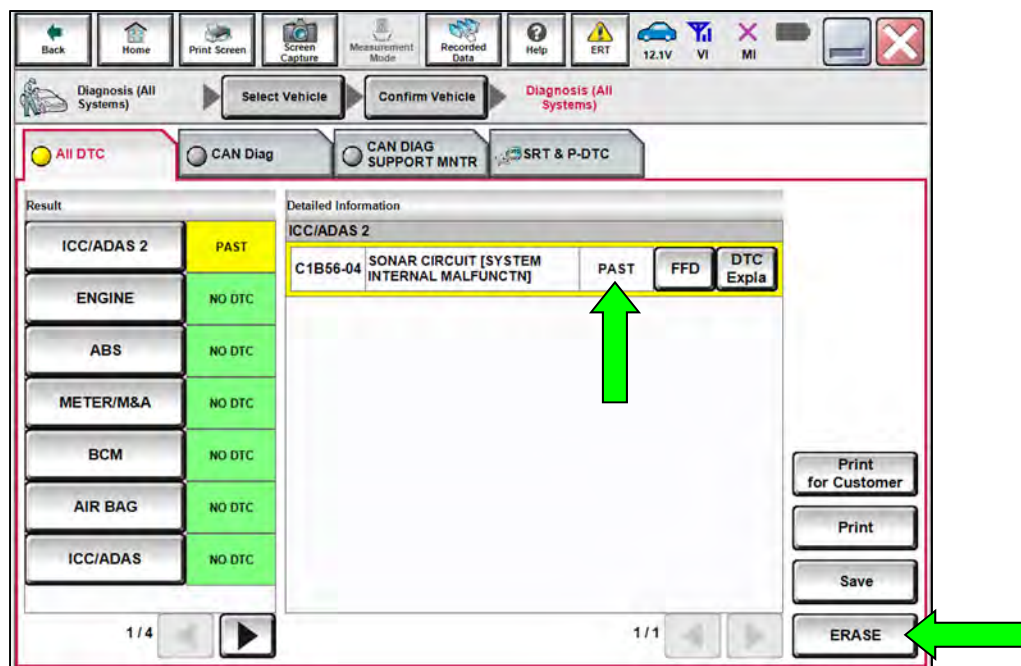

Figure 42
69. Confirm DTC C1B56-04 is displayed as **PAST** (not **CRNT**) (Figure 42).